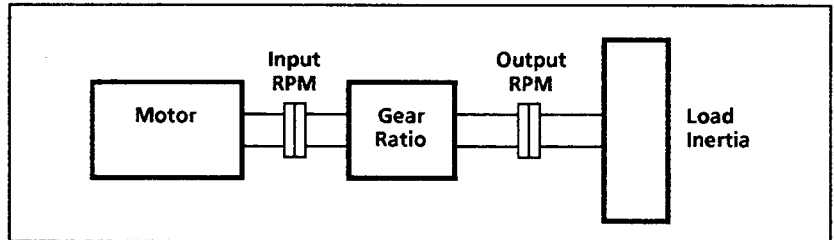

Figure 8 – System Block Diagram
b) Calculate the inertia of the system in relation to the motor shaft. See Figure 8.